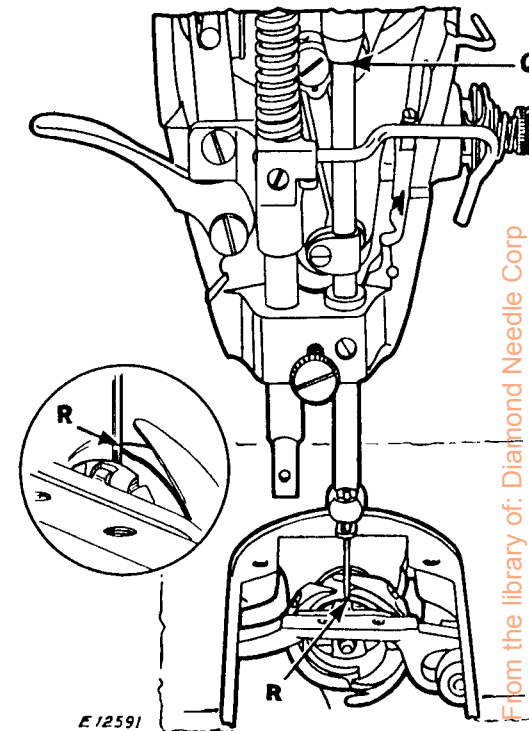
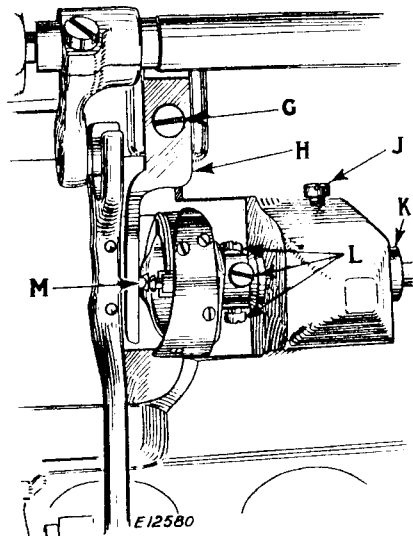
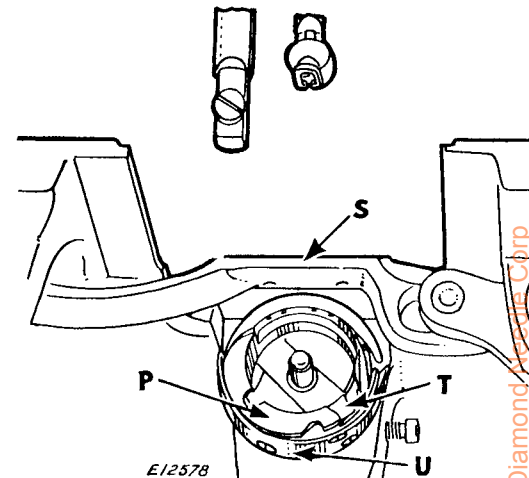

Fig.21. Needle and Sewing Hook Correctly Timed
Fig. 22. View of Underside of Machine Showing Bobbin Case Holder Position Bracket (H) and Adjustments on Machine
Fig. 23. Showing Correct Position of Thread Guard (U) and Bobbin Case Holder (P) for Removal of Sewing Hook
To determine that the hook is correctly timed, place a new needle in the machine, then turn the balance wheel over toward you until the LOWER TIMING MARK on the needle bar is centered with the lower end of the needle bar bushing as shown at (Q, Fig. 21) when the needle bar is on its upward stroke. With the needle bar in this position, the point of the hook should be at the center of the needle as shown at (R, Fig. 21). The inset in circle at the left of Fig. 21 plainly shows this position of the hook point relative to the needle.
In case the hook is not correctly timed, loosen the three screws (L, Fig. 22) in the hub of the hook. These three screws can be reached from the top of the machine bed through the open-
ing left by the removal of the throat plate, although, for purposes of illustration, the screws are shown only in the view of the underside of the machine in Fig. 22. Rotating the balance wheel of the machine will bring these screws, one at a time, directly under the throat plate opening where they can be easily reached with a screwdriver from the top of the machine bed.
After loosening the three screws (L, Fig. 22) turn the hook on its shaft to bring the point of the hook at the center of the needle as shown at (R, Fig. 21), then tighten the three screws (L, Fig. 22).
The hook should be set as close as possible to the needle without touching. If the hook is too close to the needle or too far away from it, loosen the three screws (L, Fig. 22) and the bushing screw (J, Fig. 22) and drive the bushing (K, Fig. 22) in or out, as may be required, until the hook just clears the needle, being very careful not to damage the bushing, then securely tighten the bushing screw (J) and the three screws (L).
Remove the needle, slide plate and bobbin case. Take out the screw (G, Fig. 22) and remove the bobbin case holder position
bracket (H, Fig. 22). Loosen the three set screws (L, Fig. 22) in the hub of the hook, then turn the balance wheel over toward you until the feed bar (S, Fig. 23) is raised to its highest point. Turn the sewing hook until the thread guard (U, Fig. 23) is at the bottom, as shown in Fig. 23, and turn the bobbin case holder (P, Fig. 23) until it is in the position shown in Fig. 23. The sewing hook can then be removed from the hook shaft.
When placing a new sewing hook on the shaft, have the thread guard (U) of the hook at the bottom and the bobbin case holder (P) turned to the position shown in Fig. 23, so that the hook will clear the feed bar (S).
When the hook is in position on the shaft, turn the bobbin case holder (P, Fig. 23) until the notch (T, Fig. 23) is at the top, then replace the bobbin case holder position bracket (H, Fig. 22) being careful to see that the position stud (M, Fig. 22) enters the notch at the top of the bobbin case holder, as shown in Fig. 22,
then securely fasten the position bracket by means of the screw (G, Fig. 22). Replace the needle and time the sewing hook as instructed on pages 17 and 18. When tightening the three screws (L, Fig. 22) in the hub of the hook, draw the hook shaft toward the needle bar end of the machine and press the hook toward the balance wheel to take up the end play in the shaft. Then replace the bobbin case and slide plate.